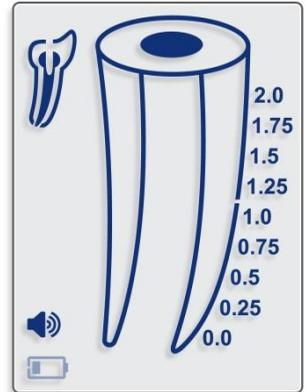

Fig. 2
- 5.2.2. When the battery level is low, the flashing Low Battery indicator will appear on the screen (Fig.2). RomiApex™ A-15 will continue normal operation even with a low battery, but the battery should be replaced before it loses all power.